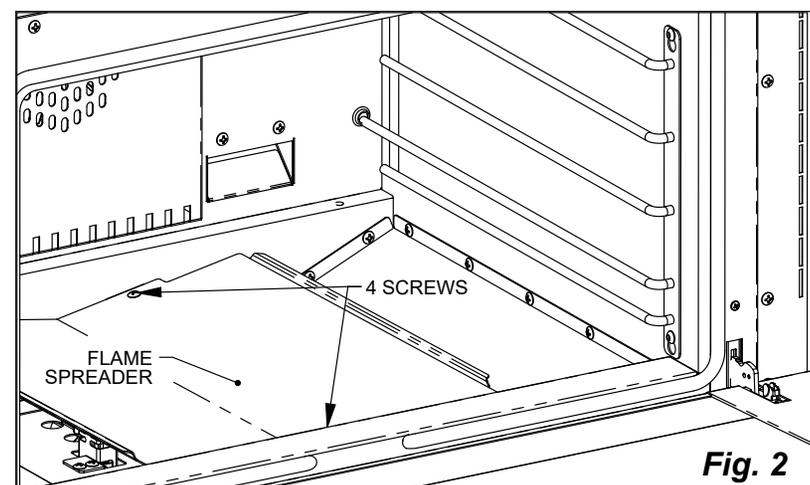

Fig. 2
4. Remove 4 screws holding the flame spreader in place and set aside. (Fig. 2)